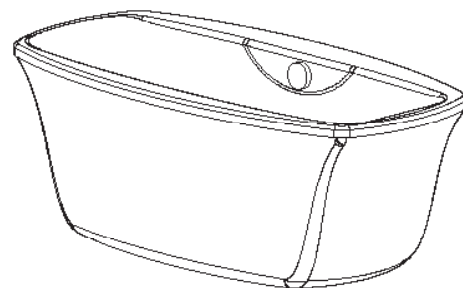

Fig. 18
7. Place the tub skirt on the floor in relation to the drain-overflow. Place the tub skirt on the floor and line up with the markings previously made on the floor (Figure 18). Allow the construction adhesive to dry for 24 hours before entering and/or using the tub.